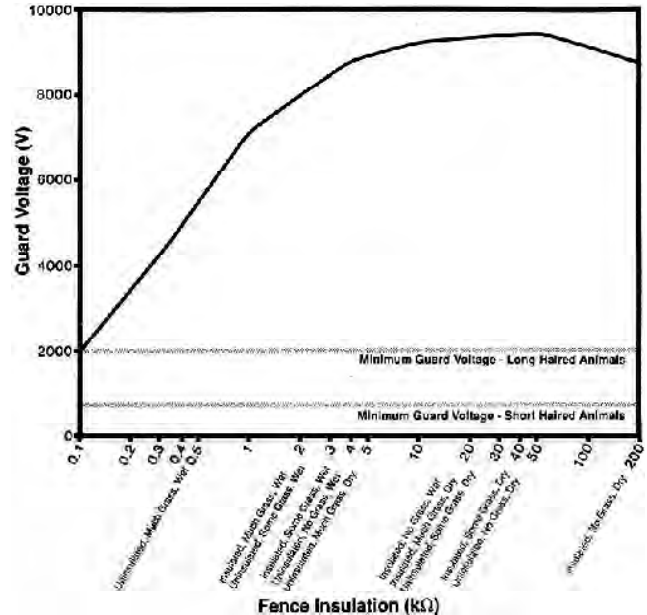

FIGURE 32. Guard Voltage for a 3.3 mi (5.4 km) Single Wire Fence.
**Shock Delivery:** FIGURES 32 and 33 show guard voltage outputs of the Speedrite 240 for 3.3 and 10 mi (5.4 and 16 km) lengths of single wire fence over a range of insulation resistances.
On a 3.3 mi (5.4 km) fence (FIGURE 32), guard voltage output varied from 9460 V for a well-insulated, grass-free, dry fence to 1930 V for an uninsulated wet fence with considerable grass touching the charged wire.
As can be seen from FIGURES 32 and 33, plant growth touching a fence did not appreciably affect shock delivery, since the voltage output was above 2000 V for nearly all fence conditions. The Speedrite 240 can be expected to deliver shocks over a wide range of fence conditions.